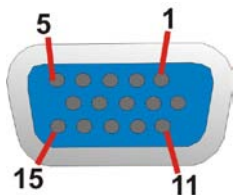

Figure 3-25: VGA Connector
- CN Pinouts: See **Figure 3-25** and **Table 3-10**